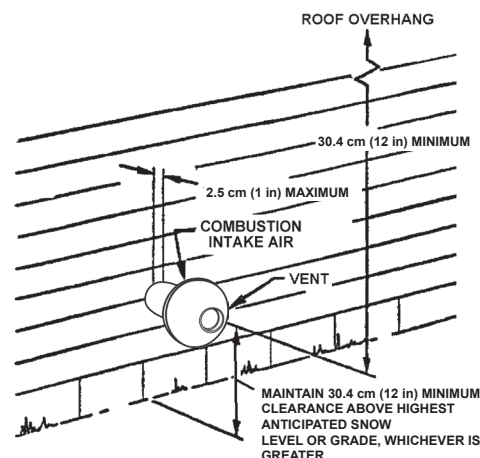
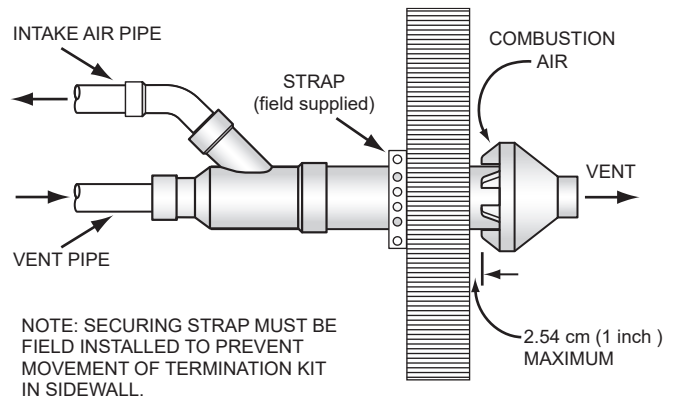
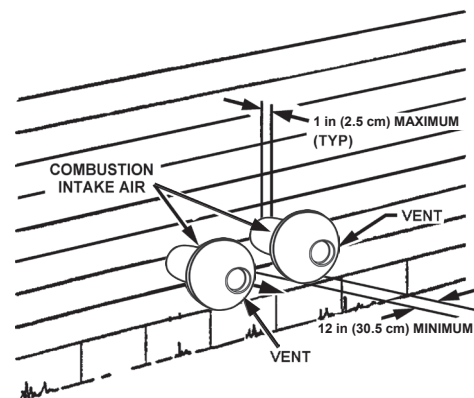
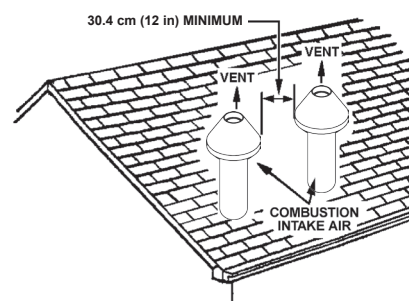

Figure 35. Concentric Termination Sidewall Installation Clearances
Figure 36. Sidewall Concentric Pipe Orientation and Attachment
Figure 37. Sidewall Multi-Concentric Termination Clearances
Figure 38. Roof Multi-Concentric Termination Clearances
- B. Ensure the Y connection is oriented so the air intake side of Y is on top. See **Figure 35** (page 33).
Note: Ensure termination location clearance dimensions are as shown in **Figure 35** (page 33), **Figure 36** (page 34) and **Figure 37** (page 34). When extending the length of the 4" pipe, the added length beyond 21-1/8" must be deducted from the maximum equivalent in of vent pipe.
6. Cement heater combustion-air and vent pipes to concentric vent termination assembly. See **Figure 36** for proper pipe orientation and attachment.
When two or more water heaters are direct vented with concentric vent terminations near each other, each water heater must be individually vented. **NEVER** common vent this water heater. When two or more water heaters are direct vented using concentric vent terminations, the water heaters may be vented as shown in **Figure 37** and **Figure 38**.